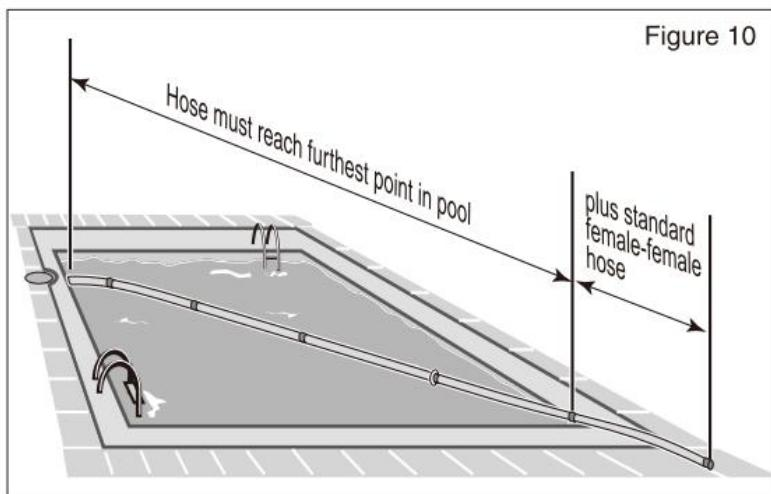

Figure 10
2. The hose should be long enough to reach the end of the pool, plus one hose section before the standard Female-Female Hose, See Figure 10.